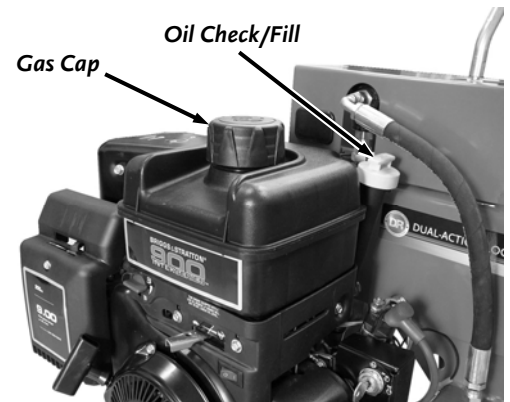

Figure 22
1. Position the machine so the Frame and Engine are level. Remove the Oil Fill/Dipstick (**Figure 22**) and clean the end of it with a rag.